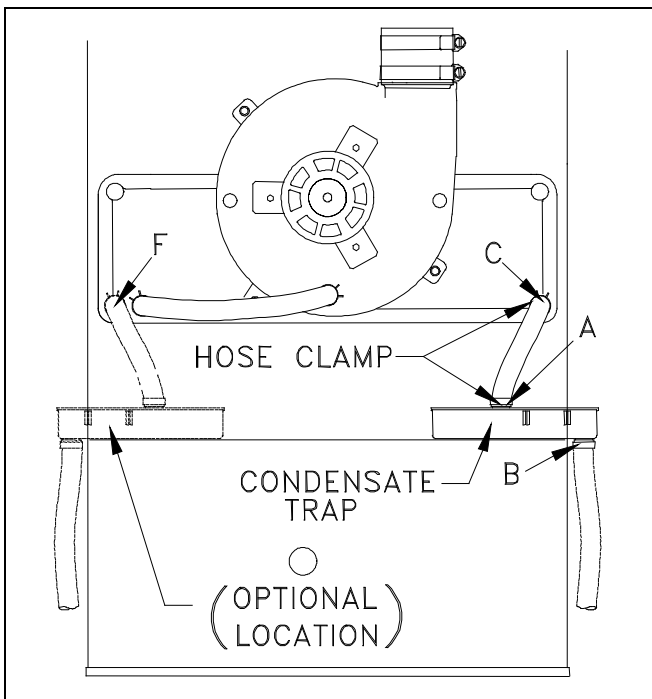

Figure 21. Downflow Drain-Trap Installation.
1. Select drain location option from Figure 21 that best fits your installation. In downflow position, condensate trap can be mounted for draining through either side of furnace.